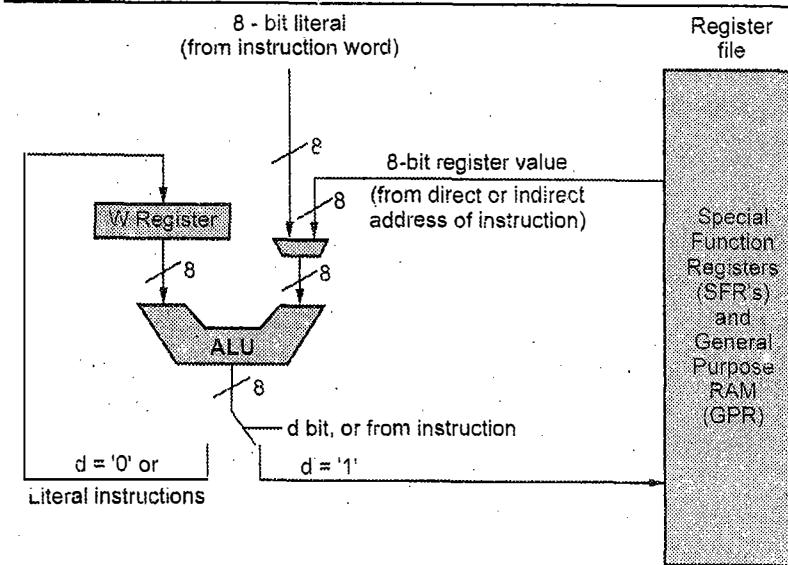

Fig. Q.4.1 : ALU function
- The function of the ALU is shown in the Fig. Q.4.1. While performing operation on ALU one of the operand is from the program data memory multiplexed with other input from SFRs and other is working register (W). The result of operation may be stored either in working register or in file register according to the direction bit 'd'. If d = 0, result will be stored in working register while d = 1, it will be stored in file register. The sample is explained with example as,